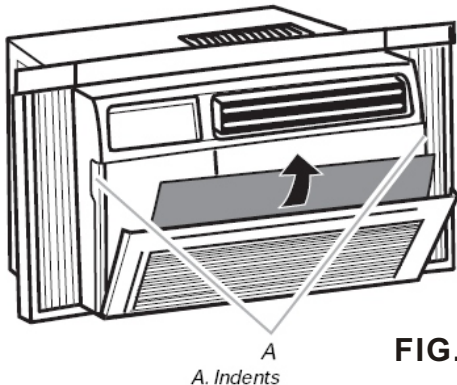

FIG.21
1. Remove the filter by pulling down on the indents of the filter door on the front of the unit. (See FIG.21)